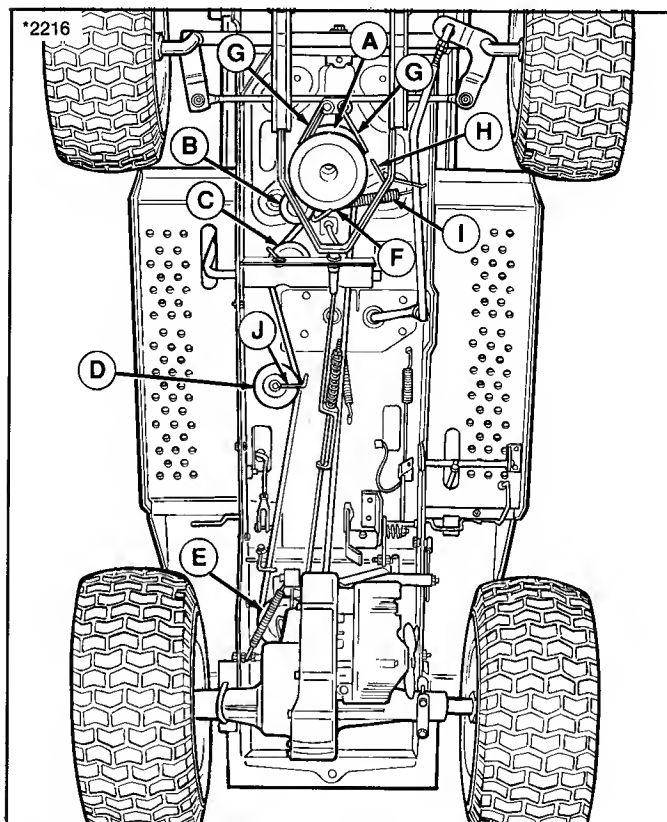
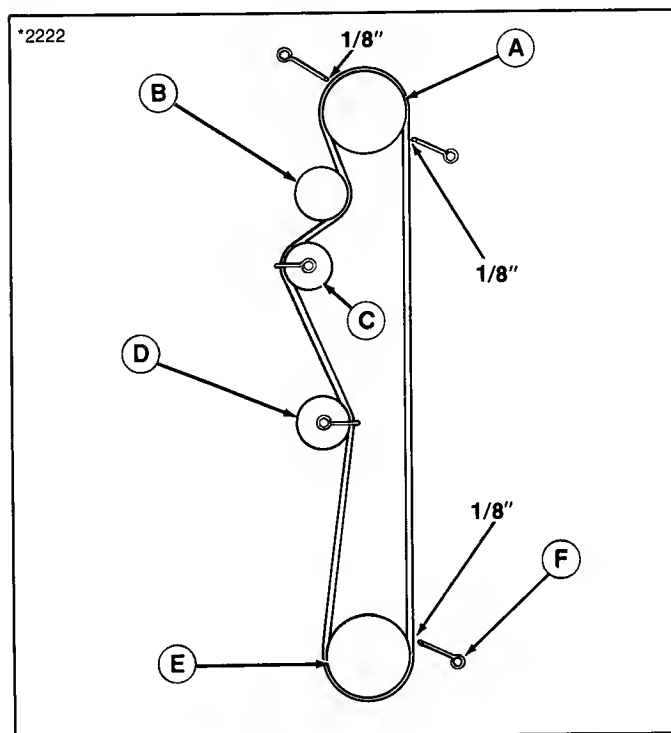

Figure 26. Tractor seen from underneath
Figure 27. Belt Diagram
2. With the clutch disengaged, remove the idler pulley spring (I).
3. Loosen the PTO pulley belt stops (G, figure 26).
4. Remove the tractor belt from the engine pulley (A) and allow to rest on top of the PTO pulley.
5. Loosen the belt stop on the idler pulley (B) and remove the belt.
6. Loosen the capscrew securing belt stop (J) and remove belt from idler pulley (D).
7. Loosen the belt stop (F, figure 27) and remove the belt from the transmission pulley (E).
8. Remove the belt from PTO pulley (F) and tractor.
9. Install the new belt by reversing the procedure. Be sure the V side of the belt is against all the pulleys except the flat idler pulleys (B and D, figure 26 and 27). The belt diagram is shown in figure 27.
10. Reinstall belt over idler pulley belt stop (J) and tighten capscrew. Make sure pulley can rotate freely after installation.
12. Perform "Tractor Brake Adjustment" and all belt stop adjustments. Make sure belt stop (F, figure 27) is positioned 1/8" from transmission pulley (in the forward position).
Reference letters in Figure 26 are same as reference letters A thru E in Figure 27.